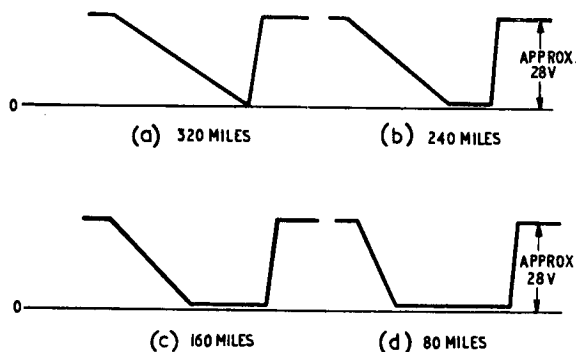
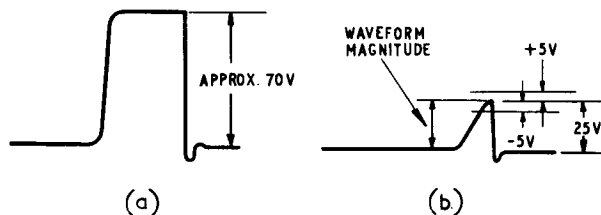

Fig. 12. Waveforms at cathode of V14 (SK10) or V15 (SK11)
Fig. 13. Waveforms at anode of V11A (SK13) or V17B (SK14)
- (1) Obtain a standard 250 c/s (or 270 c/s) unresolved sawtooth waveform, negative-going, by switching off the selsyn drive to one of the magflip resolvers in the radar office and turning its hand drive for maximum negative output.
- (2) Apply the sawtooth to SK4 and earth SK3.
- (3) Turn SWB and SWA to NORMAL.
- (4) Make sure that RV6 and RV7 are still turned fully counter-clockwise (para. 104 (2)).
- (5) On the panel (control) 859 set the off-centring control RV7 (horizontal) or RV8 (vertical), as appropriate for the amplifier under test, to approximately its mid-position.
- (6) Turn the RANGE switch to 320M (minimum expansion).
- (7) Connect the CRO (DC TO Y1) to V14 cathode (monitor point SK10) and check that a linear negative-going sawtooth is present, as fig. 12 (a).
- (8) Turn the RANGE switch successively to greater expansions (240M, 160M, 80M) and check that the sawtooth at SK10 increases in slope but runs into a limit corresponding to V14 cut-off, as fig. 12(b), (c) and (d).
- (1) Turn the RANGE switch to 80M.
- (2) Transfer the oscilloscope to V11A anode (monitor point SK13), using connection AC TO Y2.
- (3) With RV6 fully counter-clockwise the waveform at SK13 should be like fig. 13(a). The abnormal 70V rise marks the interruption of the feedback loop by V14 cut-off; it is preceded by a normal linear sawtooth of such small amplitude at this stage as to be invisible to the naked eye.
- (4) Turn RV6 clockwise until the amplitude of the waveform is reduced to $25V \pm 5V$, as fig. 13(b).
- (5) Connect SK4 to a positive-going 250 c/s (or 270 c/s) unresolved sawtooth waveform, and transfer the oscilloscope to V15 cathode (monitor point SK11).
- (6) Check that at SK11 a linear negative-going sawtooth is present, as fig. 12(d), running into a limit corresponding to V15 cut-off.
- (7) Transfer the oscilloscope to V17B anode (monitor point SK14), using connection AC TO Y2.
- (8) With RV7 fully counter-clockwise the waveform at SK14 should be as fig. 13(a).
- (9) Turn RV7 clockwise until the amplitude of the waveform is reduced to $25V \pm 5V$, as fig. 13(b).